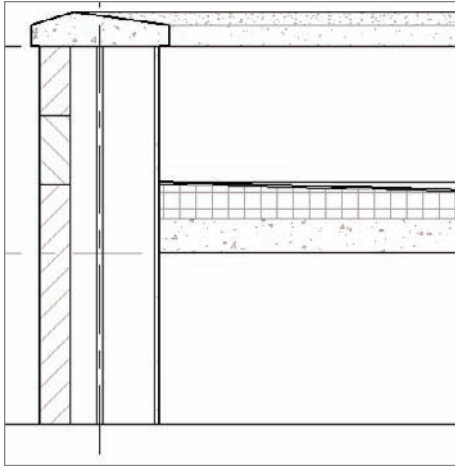

FIGURE 12.3 Your section's outline should start looking a lot better.
11. Click OK and you will see the change to your outline (see Figure 12.3).